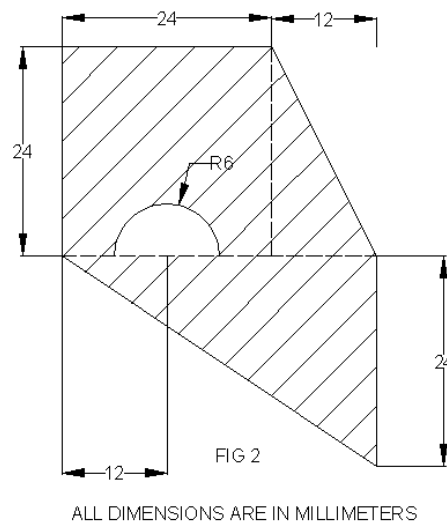

Figure 2
- (b) Locate the centroid of the hatched area show figure 2. (16)